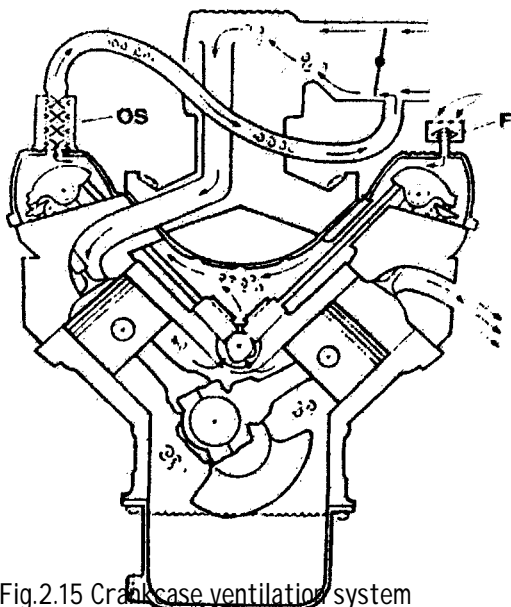

Fig.2.15 Crankcase ventilation system
Air is drawn out of the crankcase by depression felt at the pipe connected to the plenum chamber in the butterfly housing. This pipe connects to the front of the right rocker cover via an oil separator (OS) which is fitted to ensure that lubricating oil is not drawn into the engine inlet. As the impure air is being drawn out to be burnt in the combustion chambers, it is replaced by fresh air drawn through the filter (F) located on the rear of the left rocker cover (see fig.2.15)